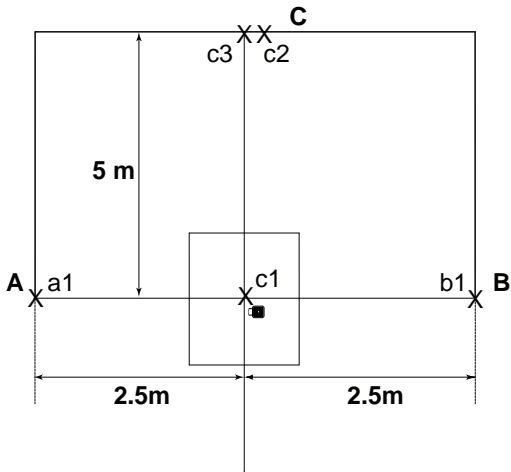

Figure 8
- 6) Mark as **c3** the center of the side vertical beam on wall **C**, at the same height as point **c2**. (see figure 8).